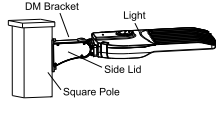

Figure 16
- Step 2: Put the connected wire into the junction box, then cover the junction box. (Figure 16)